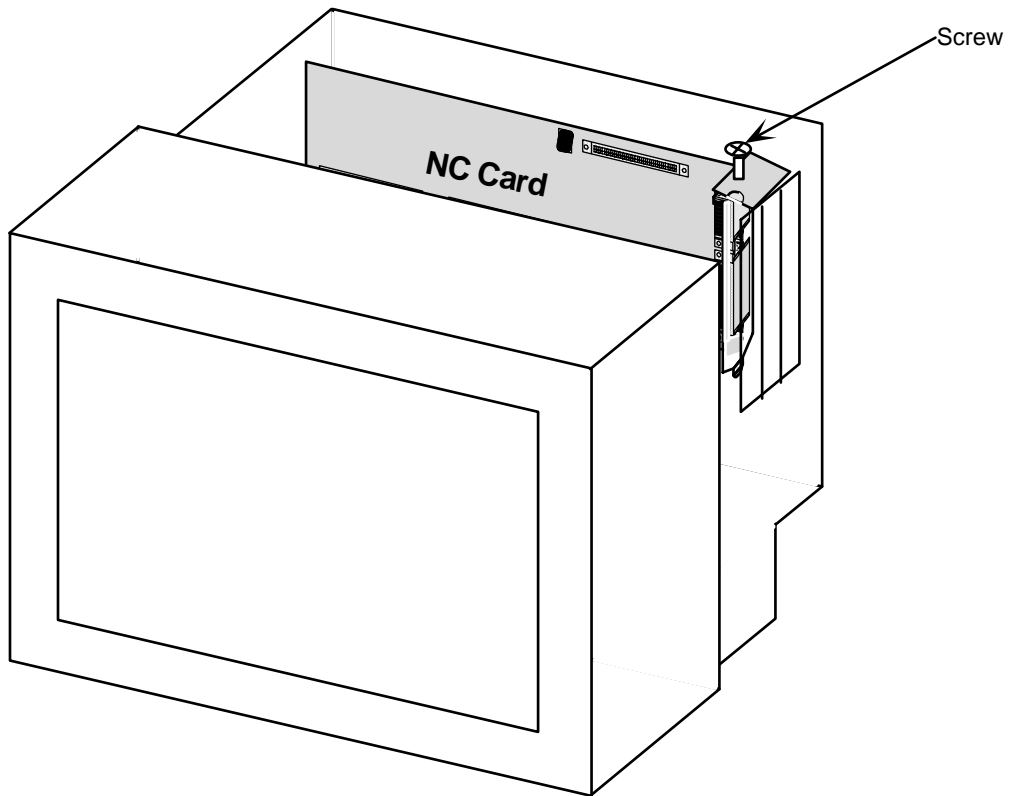

Fig. 1
- (4) Remove the fixing screw (one location) that fixes the NC Card to the personal computer. (Refer to Fig. 1)